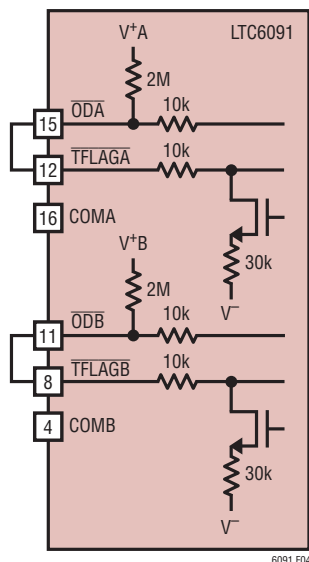

Figure 4. Automatic Thermal Output Disable Using the TFLAG Pins
- For simplest operation, float both channel's COM pins ($\overline{\text{COMA}}$ and $\overline{\text{COMB}}$), and connect $\overline{\text{ODA}}$ to $\overline{\text{TFLAGA}}$, and $\overline{\text{ODB}}$ to $\overline{\text{TFLAGB}}$ as shown in Figure 4. Both output stages will be safely disabled should the die temperature reach approximately 145°C . Both COM pins may be tied to ground in this configuration so long as V^- is biased more negatively than -3V with respect to ground for proper thermal shutdown operation.